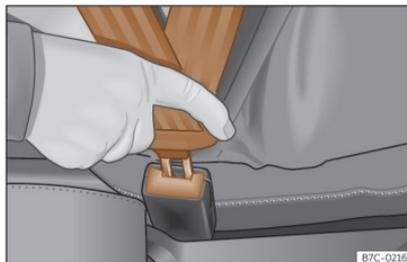

Fig. 19 Insert the latch plate of the seat belt into the buckle.
- Fasten the latch plate in the corresponding buckle»» Fig. 19.